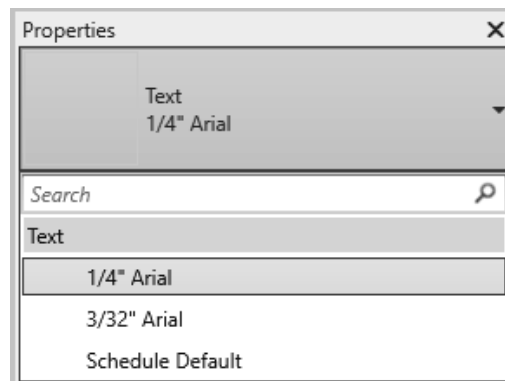

Figure 1–27
2. Expand the list in the Type Selector. Only a few text types are available, as shown in Figure 1–27.